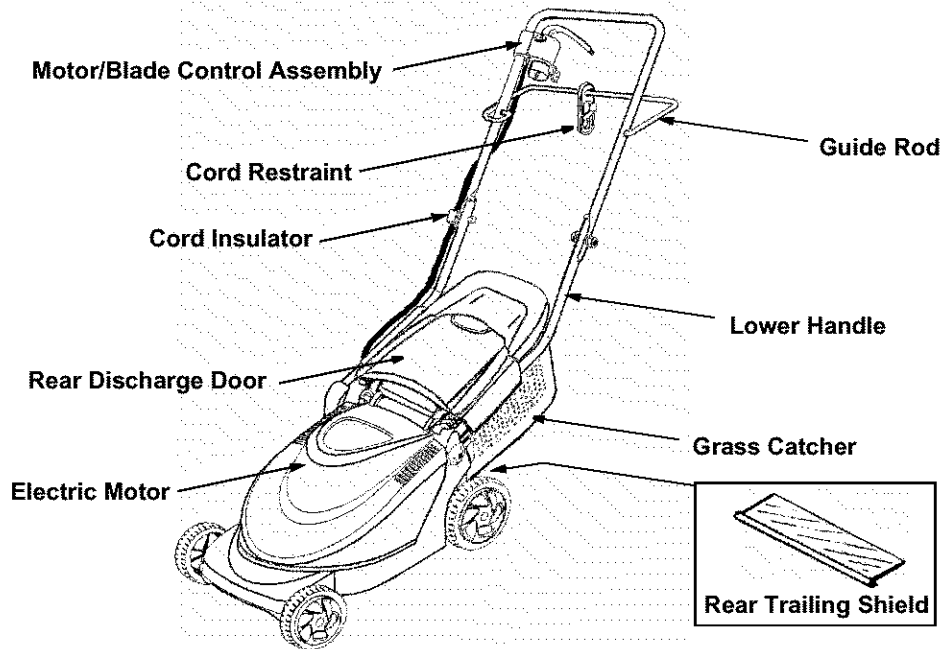

Figure 7
Read this operator's manual and safety rules before operating your lawn mower. Compare the illustration in Figure 7 with your lawn mower to familiarize yourself with the location of various parts and controls. Save this manual for future reference.
The motor/blade control is located on the upper handle of the mower. Refer to Figure 7. The motor/blade control handle engages and disengages the motor and blade.
The mower is equipped with a circuit breaker, located on the motor/blade control. Refer to Figure 7. This circuit breaker may trip when too much strain is placed on the mower. See *Making Adjustments Section*.
- Keep the cord restraint as close to the motor/blade control as possible. See Figure 7.